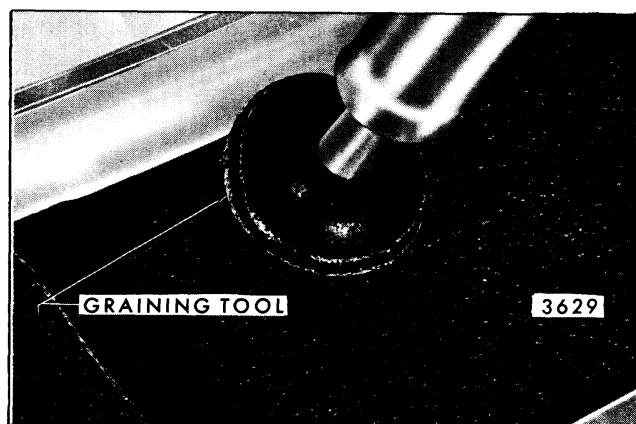

Fig. 8-36-Vinyl Patching Compound Curing and Graining
4. Graining operation is performed by exerting light hand pressure and applying preheated graining iron over damaged compound filled area for approximately one and one half minutes (see Figs. 8-36 and 8-37). Curing and graining time can be increased slightly depending on size of repair.